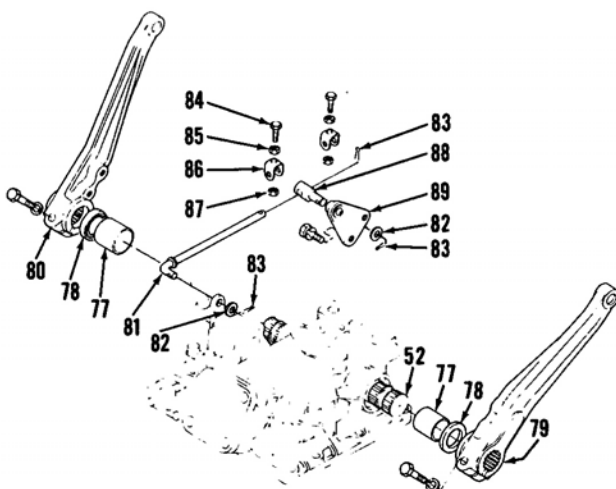

Fig. 103—Exploded view showing rocker shaft, lift arms and control rod assembly typical of all models.
100. OVERHAUL. Remove seat mounting brackets. Remove four cap screws securing cylinder head (64 or 67—Fig. 102) to lift cover (51), then separate components. Extract piston (59) from cylinder bore. Place suitable alignment marks on lift arms (79 and 80—Fig. 103) and rocker shaft (52) to ensure correct positioning during reassembly. Remove cap screws securing left and right lift arms (79 and 80) on rocker shaft (52), then withdraw left lift arm (79) and right lift arm (80) with control rod assembly (81 through 89). Place a suitable alignment mark on rocker shaft (52—Fig. 102) and arm (53) to ensure correct positioning during reassembly. Hold snap ring (54) open and lightly tap rocker shaft (52) against small diameter end to drive rocker shaft (52) from arm (53). Remove oil seals (78—Fig. 103). On models equipped with diverter valve cylinder head (67), disassembly is evident after referral to Fig. 102.
Clean all components with a suitable cleaning solvent, then blow dry with clean compressed air. Inside diameter of cylinder bore should be 60.06-60.10 mm (2.365-2.366 inch) with an allowable limit of 60.15 mm (2.368 inches). Cylinder bore should not taper more than 0.05 mm (0.002 inch). Measure vertical and horizontal inside diameter of lift cover bushings (77—Fig. 103). Right side bushing (large end) diameter should be 31.97-32.04 mm (1.2587-1.2614 inches) with an allowable limit of 32.4 mm
cant and coat all seals and "O" rings with a thin film of oil prior to reassembly. Be sure rocker shaft (52—Fig. 103) align-